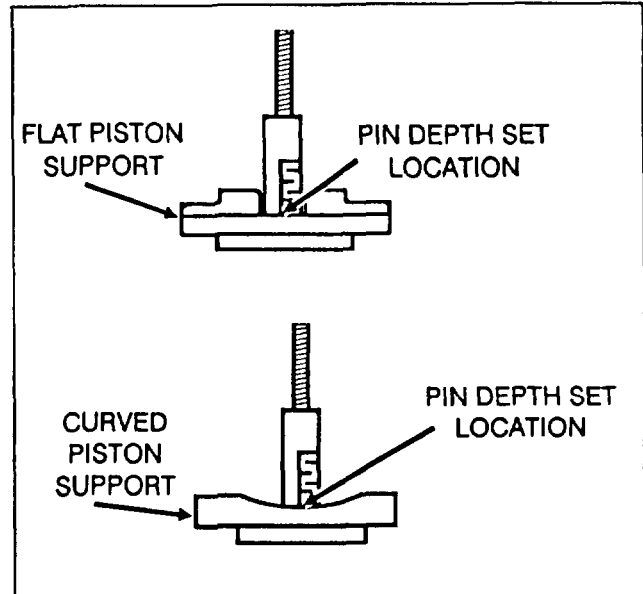

Figure 6
**NOTE:** The piston pin depth set location is measured on the piston support as shown in Figure 6. If a curved support is being used, measure to the bottom center of the curve. For a flat support, measure to the lowest point of the flat surface.